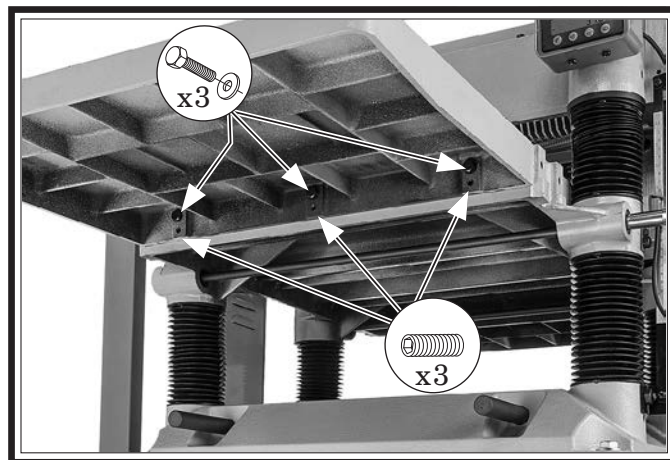

Figure 18. Extension table mounting locations.
8. Attach each cast-iron extension table to planer table with (3) M8-1.25 x 25 hex bolts and (3) 8mm flat washers as shown in **Figure 18**. Do not fully tighten hex bolts at this time.
9. Thread (3) M8-1.25 x 12 set screws into each extension table at locations shown in **Figure 18**.